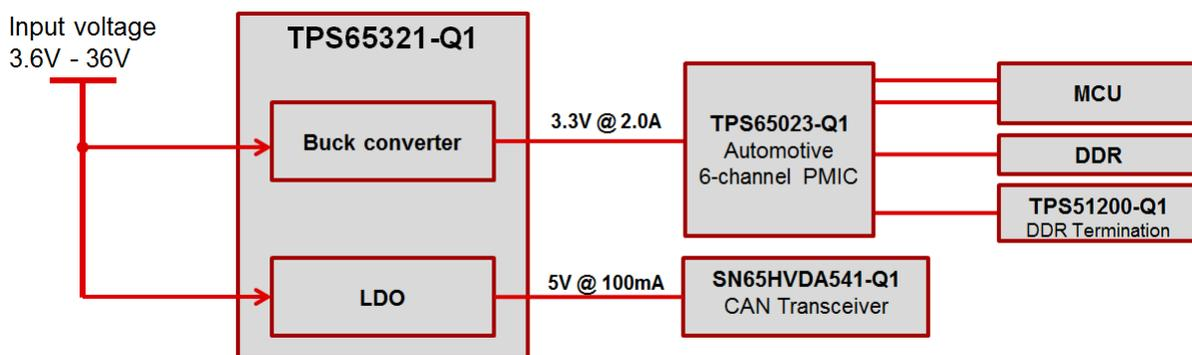

Figure 1. Automotive HUD Block Diagram
In this installment of my two-part series, the application example is an automotive head-up display \(HUD\). The HUD’s power tree consists of two rails with different current requirements. The 5V rail needs a maximum of 100mA to supply an always-on CAN transceiver. All other loads are powered by the 3.3V rail. A low-voltage power-management integrated circuit (IC) running off the 3.3V rail and drawing up to 2A of current supplies the microprocessor and double data rate (DDR) memory as well as the rest of the system, as shown in Figure 1.